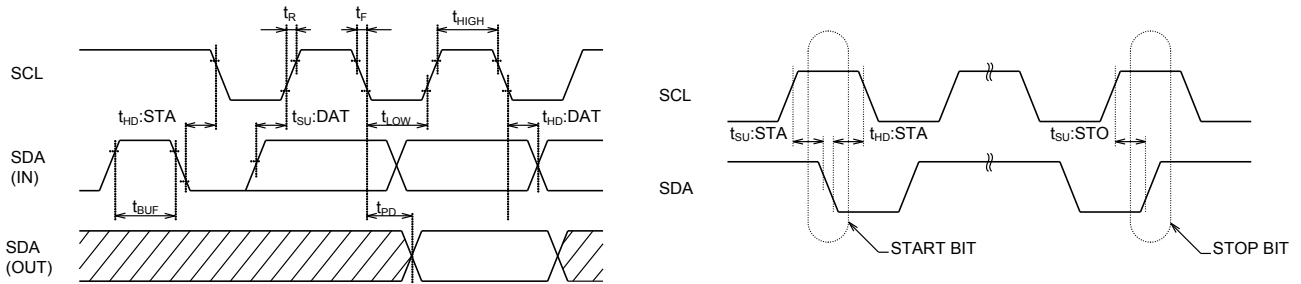

Figure 1. Synchronous Data Timing
- All commands must be terminated by a STOP condition, which is a Low to High transition of SDA when SCL is HIGH. (See Figure 1.)